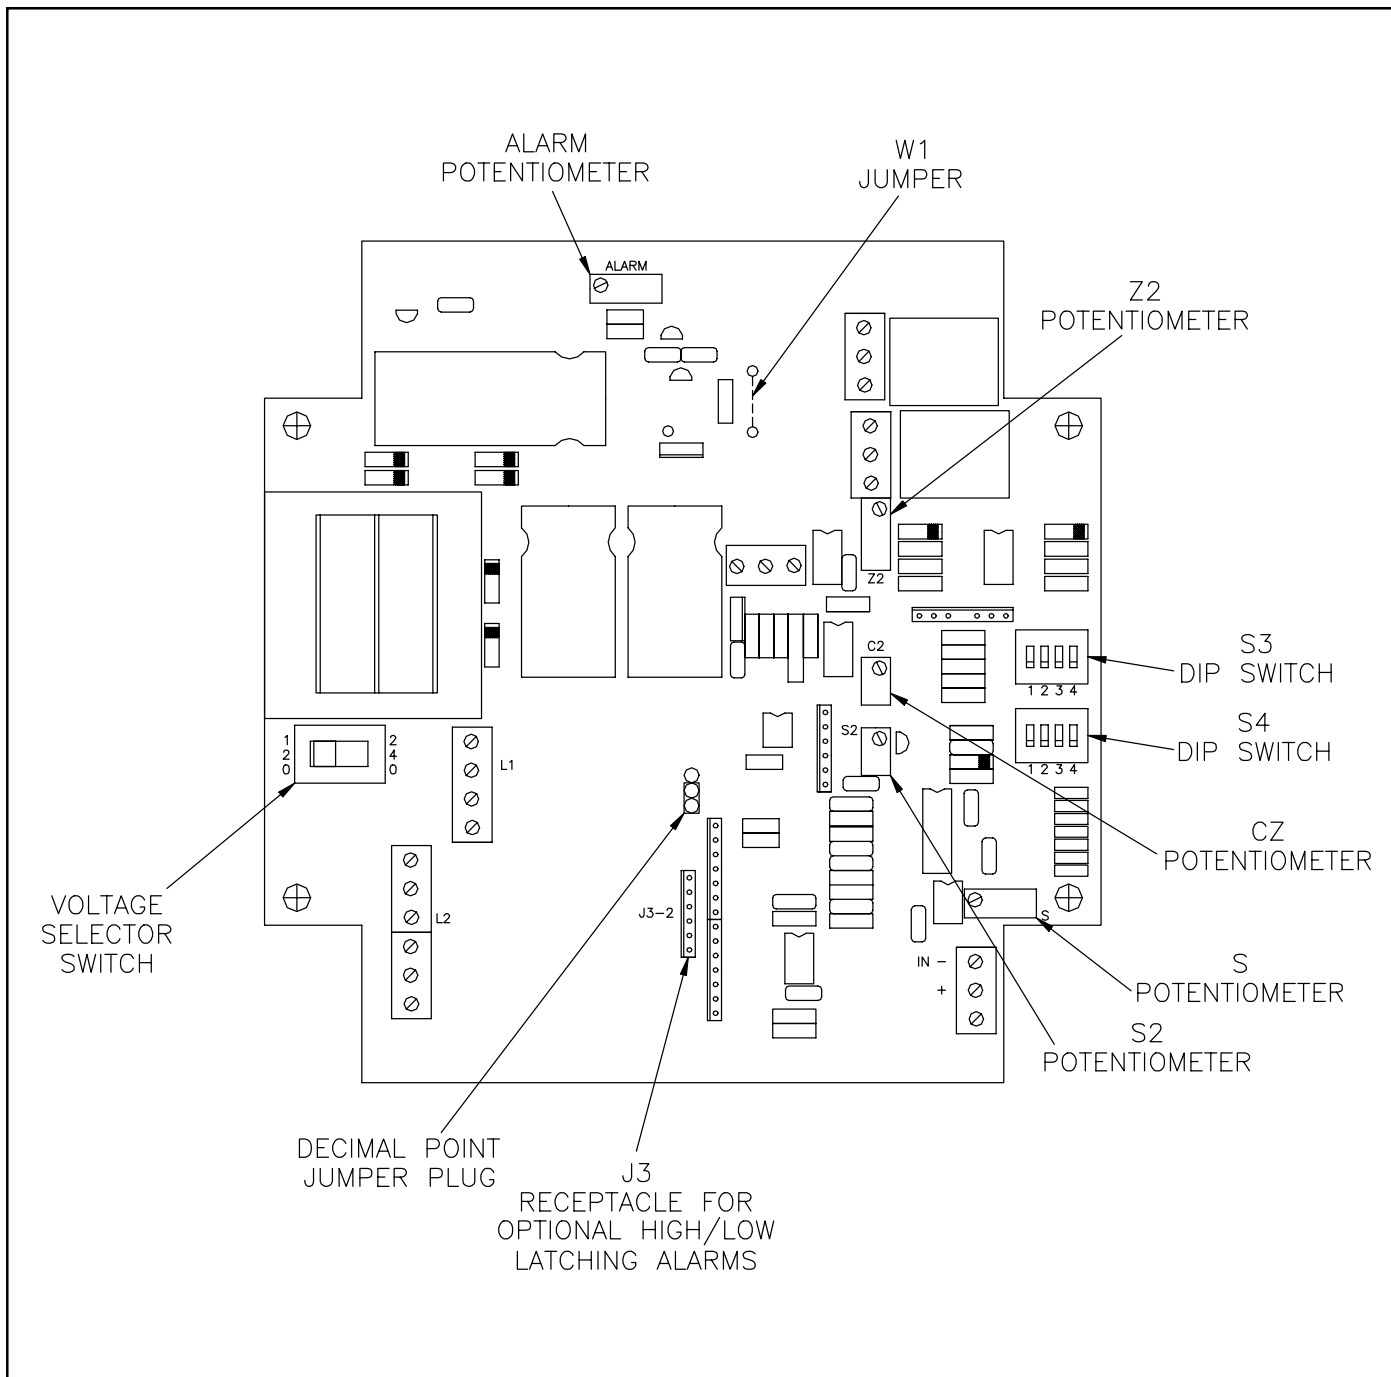

Figure 20 - Printed Circuit Board
NOTE: The bare wire jumper marked W1 on the printed circuit board determines the current output range. If the W1 jumper is in, the range is 0-20 mAdc or 0-50 mVdc. If the W1 is out, the range is 4-20 mAdc. The 0-50 mVdc range also has a 2.5 ohm resistor connected across the + and - OUT terminals. See Figure 20.
3. Connect the front panel to the printed circuit board per Figure 20.